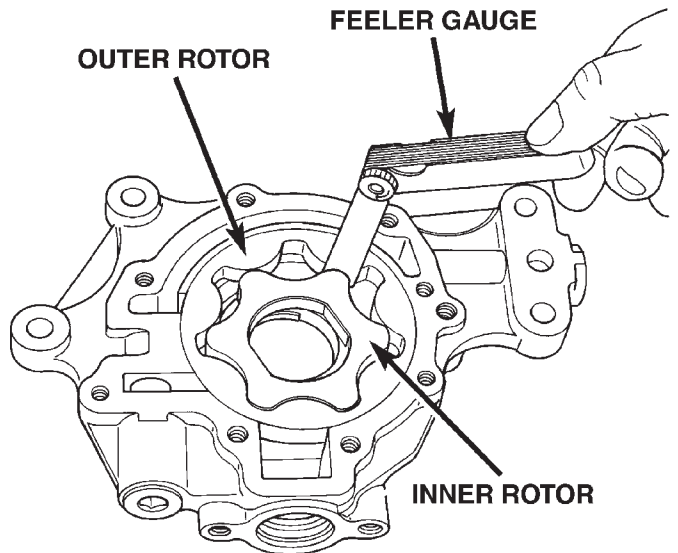

Fig. 97 Measuring Clearance Between Rotors
(6) Install inner rotor into body. If clearance between inner and outer rotors (Fig. 97) is 0.20 mm (0.008 inch.) or more, replace both rotors.